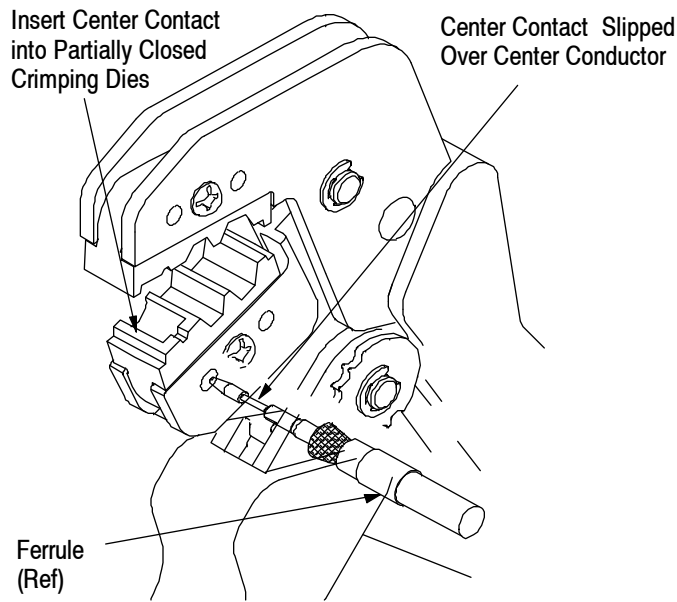
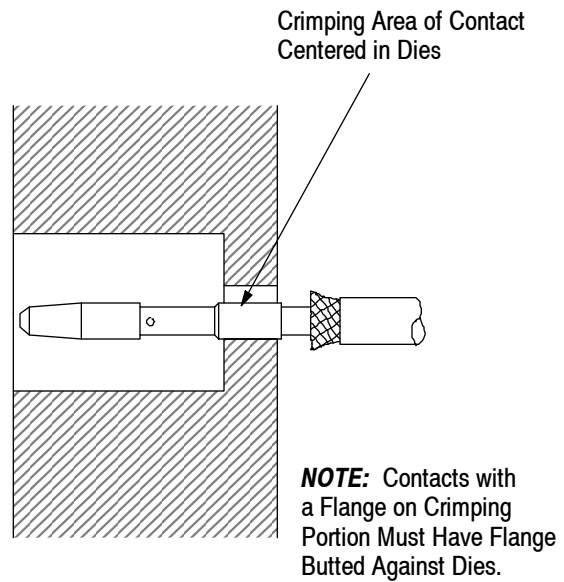

Figure 2
Figure 3
3. CRIMPING PROCEDURE (Figure 2 and Figure 3)
NOTE Center the crimping area of the contact in the dies. See Figure 2. If contacts have a flange on the crimping portion, butt the flange against dies (Figure 3).